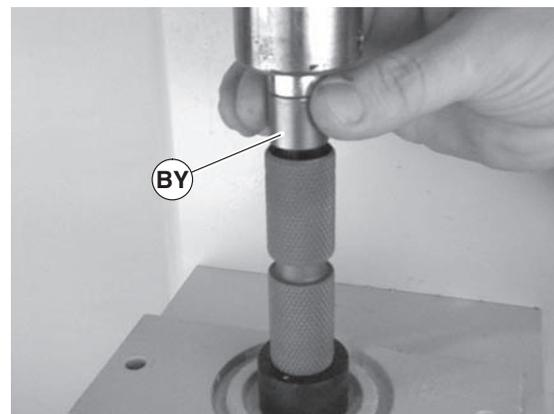

Figure 64
3. Place and hold bearing (Figure 64, item BY) onto tool (CC).